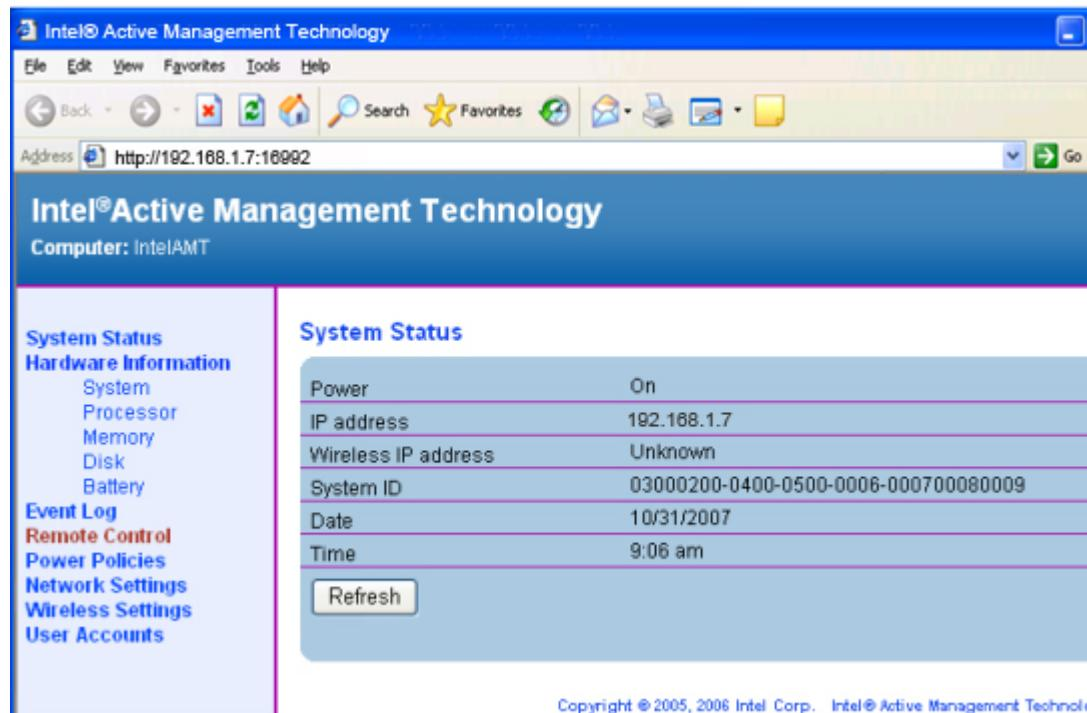

Figure C-13: Intel® AMT Web Interface
Step 6: Enter admin as the user name (Figure C-13).
Step 8: Press OK and the Intel® AMT web interface appears (Figure C-13).